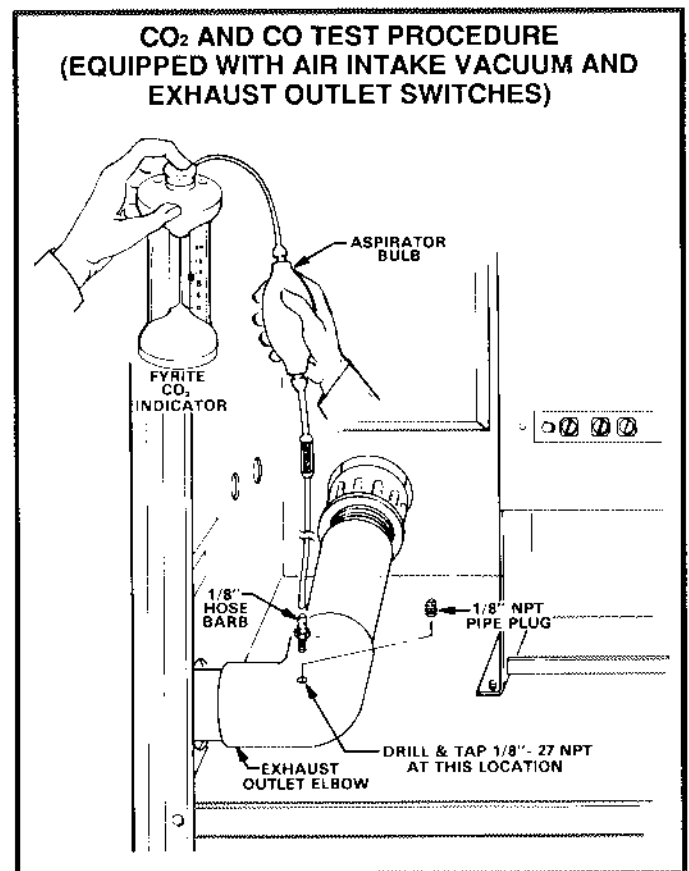

FIGURE 27
- 2- Install a hose barb connector into the test port. Refer to figure 27.